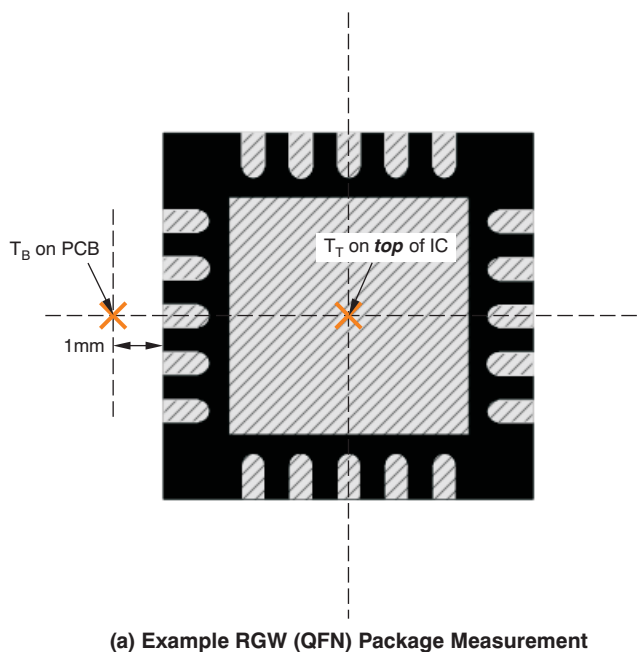

Figure 43. Measuring Points For T_T And T_B
T_B is the PCB temperature measured 1 mm away from the IC package *on the PCB surface* (see Figure 43). (3)